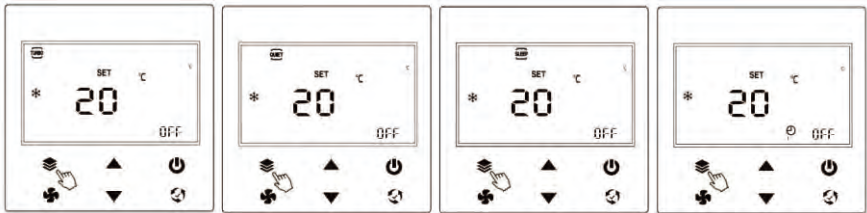

Figure 7. Function selection switch interface
1. Short press the button  , and the screen enters the timing setting interface, and the timing period and timing status are displayed blinking. If you short press the button  continuously, the timing period will switch among period 1, period 2, and period 3. In addition, in the timing period, the nixie tube displays On to indicate that the period is enabled, and to realize OFF indicates that the period is not enabled. As shown in Figure 7: